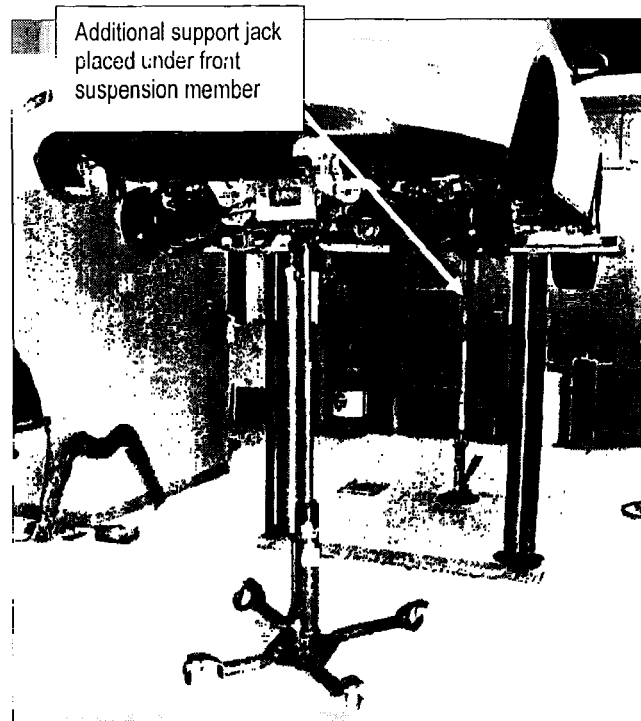

Figure 28
29. Place an additional support jack under the front suspension member to help stabilize the vehicle on the lift (see Figure 28).